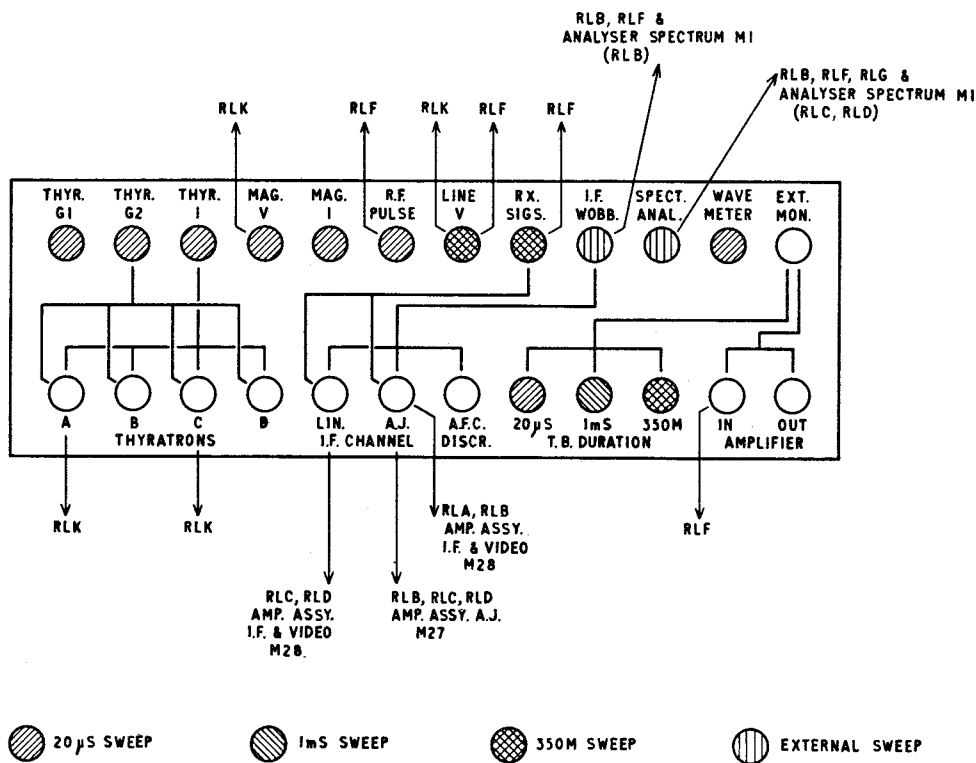

Fig. 9: Waveform selector panel layout
53. The arrangement of the push-buttons on the waveform selector panel is shown in *fig. 9*. The main control buttons SA1-12 are mounted above the subsidiary buttons SB, SC, SD and SE. The diagram also shows the relays energized when each button is pressed. The function of each relay is given in Tables 2 and 3.